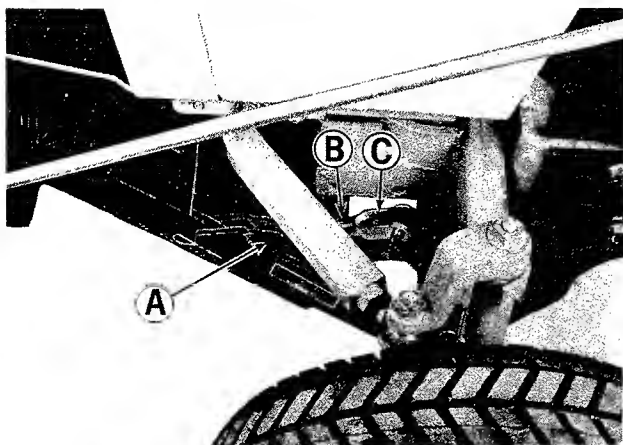

Figure 9. Transport rod assembly installed.
3. See figure 9. Use two pins and spring clips to attach the rod assembly (A) to the snow plow and dozer blade and front hitch assembly as shown. The length of the rod assembly can be adjusted by loosening the locking nut (B) and turning the yoke (C) as necessary so the holes will line up and the pins can be easily inserted. Tighten the locking nut against the yoke after any adjustment has been made.